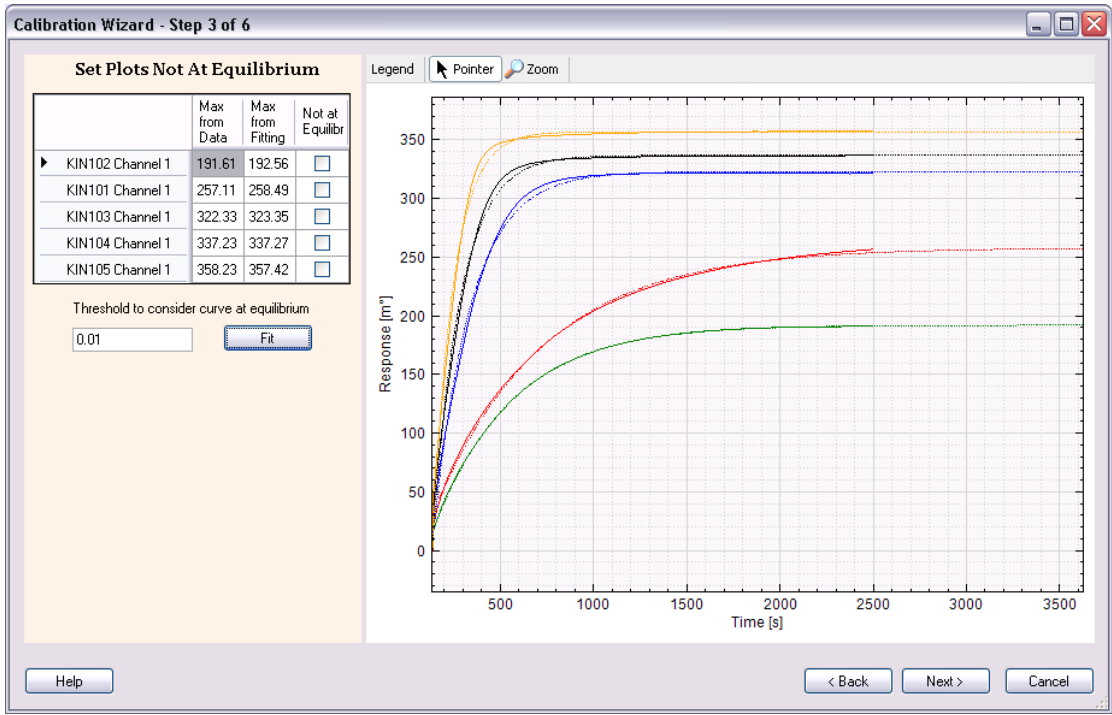

Figure 6.7 – Equilibrium extrapolation for a Calibration project
Step 3, as shown in Figure 6.7, determines any plots that are not at equilibrium by fitting the data. The fit is accomplished by pressing the **Fit** button. Any plots not at equilibrium will be checked in the **Not at Equilibrium** column. The fit extrapolations are shown in the plot area.